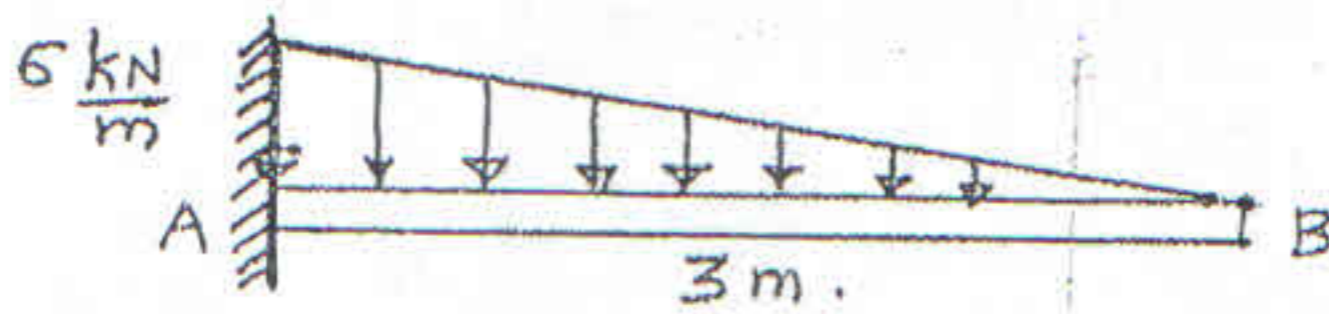

Fig. 10
- (c) Using double integration method, determine the slope at the free end (B) of the cantilever beam (Fig. 10). 4